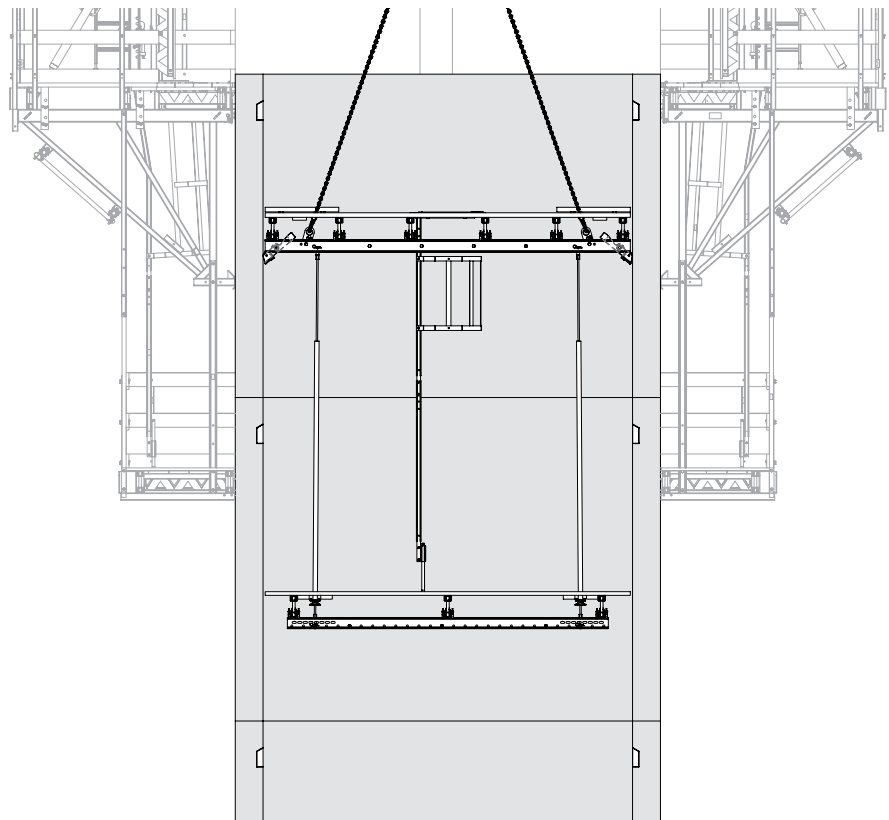

Fig. D1.02
3. Lift out the Shaft Platform. (Fig. D1.02)